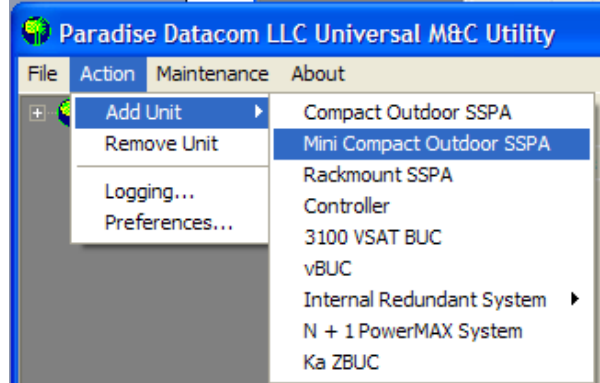

Figure 3-7: Universal M&C Add Unit menu
2. Select [Action] → [Add Unit] from the main menu of the Universal M&C Program and select [Mini Compact Outdoor SSPA] from the menu choices. See **Figure 3-7**.